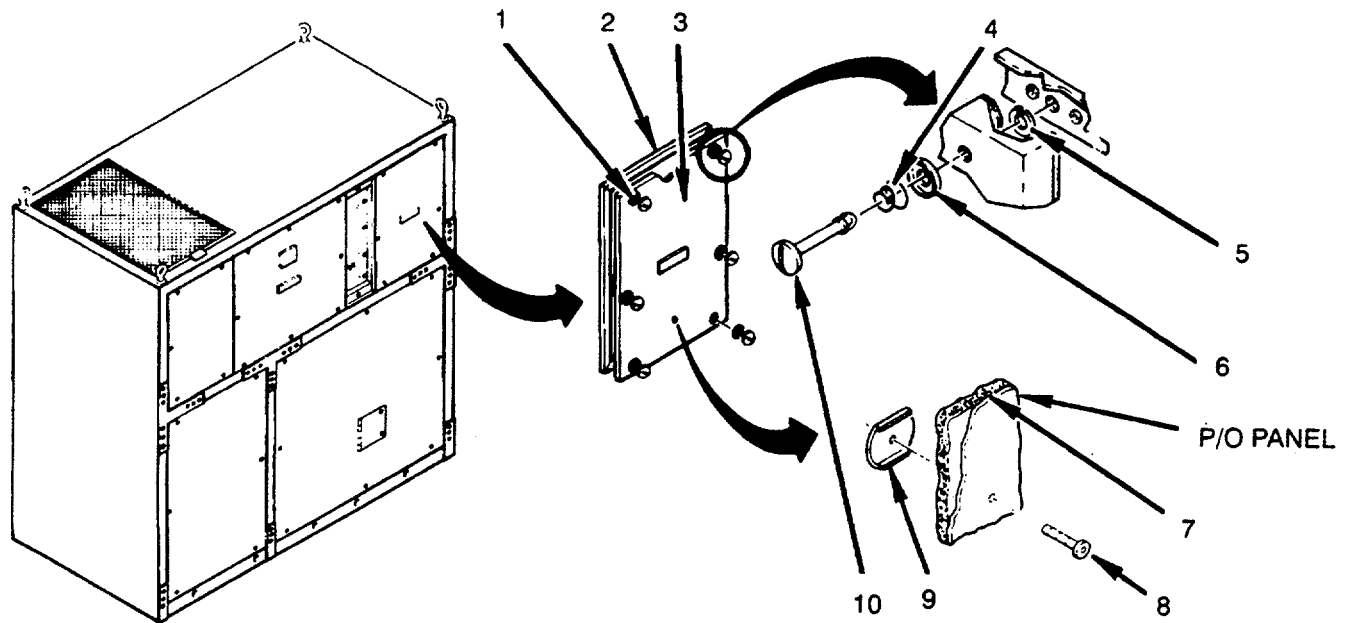

Figure 4-29. Right Front Evaporator Panel
1. Loosen six captive fasteners (1) (see Figure 4-29).
2. Remove panel (3).